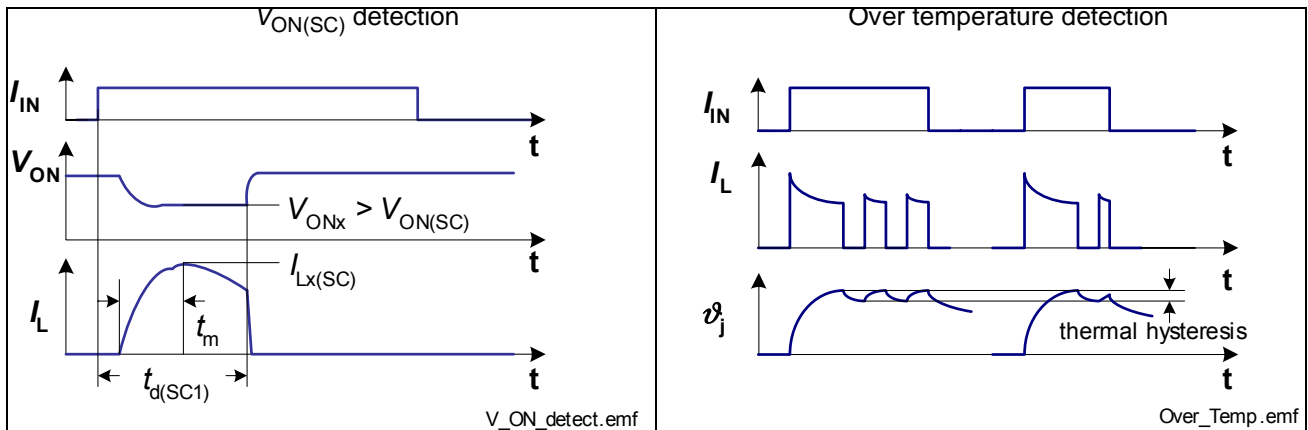

Figure 12 Overload Behavior
In the event that either the short circuit detection via $V_{ON(SC)}$ is not activated or that the on chip temperature sensor senses over-temperature before the blanking time $t_{d(SC1)}$ passed by, the device switches off resulting from over-temperature detection. After cooling down with thermal hysteresis, the devices switches on again. Please refer to **Figure 12** for details.
2) Short circuit current limit for max. duration of $t_{d(SC1)}$, prior to shutdown, see also Figure 12.